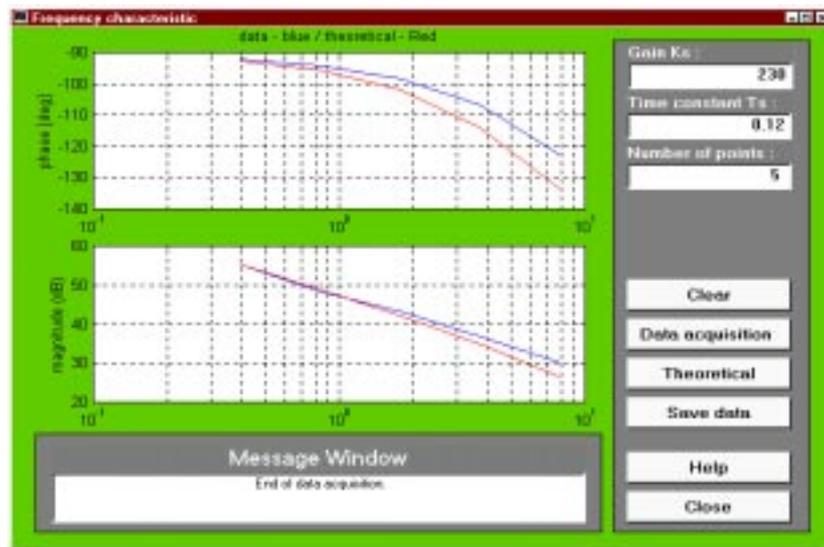

Figure 4-8: Frequency characteristic of DC motor window
- 3)** *Frequency characteristic* - opens the window to start measurement of the frequency response of the DC motor (Figure 4-8).